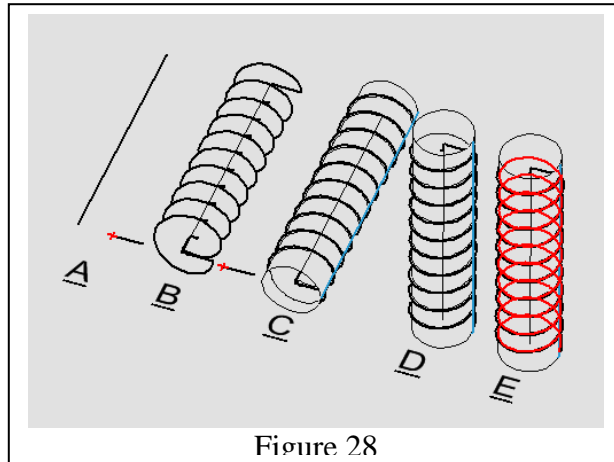

Figure 28
For the Rail Sweep path, draw a vertical line equal in length to the desired height of the helix. For the profile, draw a horizontal line whose length is a little greater than the desired radius of the helix. Snap a Point object to one end of the second line. (See “A” in Figure 28.)
Rail-Sweep the horizontal line along the vertical line, with “Use compound profile” and “Use compound path” enabled. Apply a *Twist Angle* equal to the desired number of turns multiplied by 360. The Sweep is “B” in Figure 28.
The mold does not have to be a filled-in “solid” object, since the Intersection method will work just as well with a zero-thickness sheet. An easy way to create the cylindrical mold needed here is simply to Revolve a profile that consists of a single line. Draw a second vertical line somewhat longer than the desired height of the anticipated Spline, making its distance from the first vertical line (the one used as a Sweep path) equal to the radius of the Spline. Revolve this second vertical line about the first one, thus creating a hollow cylinder. The line is colored blue in Figure 28 “C” and “D.”
Although this next step might seem arbitrary, problems can easily arise later on if it’s neglected: Select both the cylinder and the Sweep (you can include the three lines and the Point, too, but you don’t have to), then enter **90°** in the *Rot X* field of the Inspector Bar, and press Enter. (Figure 28 “D.”)
Activate the “Intersection” tool (not “3D Intersect”). Click on the cylinder, then on the Sweep. The result will be a 3D spline, as shown in red in Figure 28 “E.” This spline can be used as a Sweep path, or it can be extruded and shelled. *If you fail to rotate the cylinder and Sweep as in Step (4), it will not be possible to extrude the resulting spline correctly.*